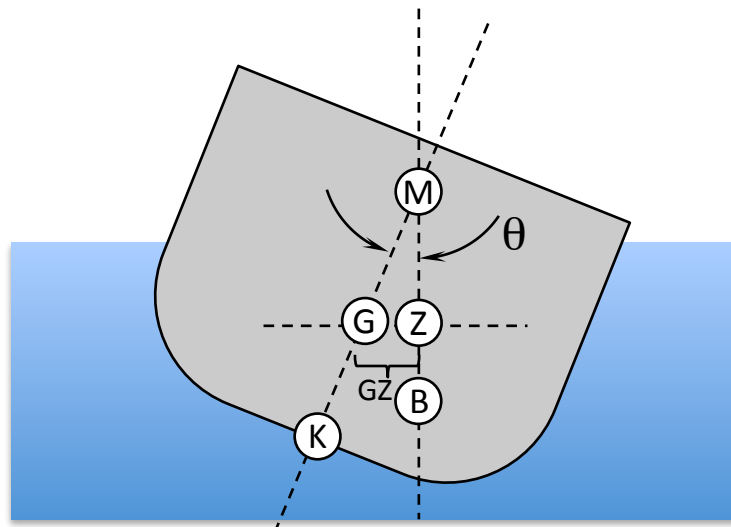

Figure 3 – Distance GZ (Righting Lever)
If we now consider Figure 3, another location has been named (Z).